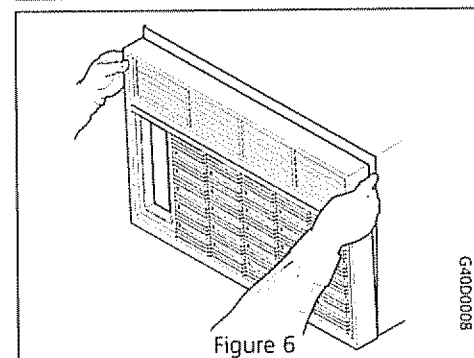

Figure 6
- Remove the slotted screw on each side of the cabinet with a standard screwdriver. Push the front down and pull toward you to release the front from its retaining lock. Lift off the front. Pull the filter from its recess (Figures 6 and 7).